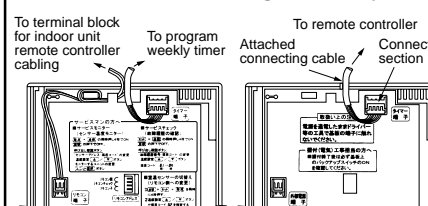

Fig. 3
- Connect the attached connecting cable to the timer terminal (4P connector) of the program weekly timer. (Fig. 3)